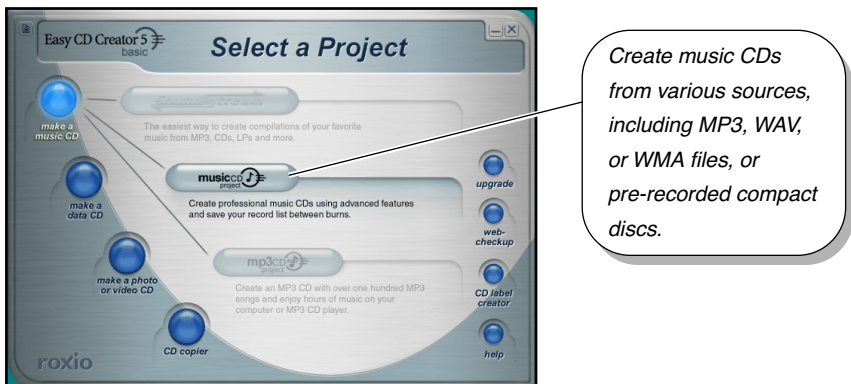

Figure 24. Select a Project Panel: Make Music CD
When you roll over the make a music CD button on the Select a Project panel, the system highlights the button and displays the musicCD button (Figure 24 on page 23). This button enables you to create music CDs, and save your record list between burns.
1. **Roll over the make a music CD button on the main Select a Project panel (Figure 24 on page 23).**
The system displays the musicCD project button (Figure 24 on page 23).